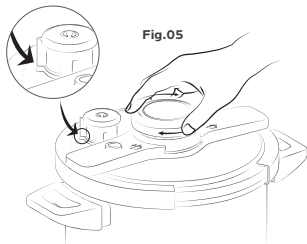

Fig.05
2. After depressurisation, open the pressure cooker by turning the button in a clockwise direction. (Fig.05)
- Adjustment valve: remove the selector button by placing it in this position as shown in the image (**Fig.05**) and rinse it under running water. Replace the selector button and make sure it is securely in place. It should move without difficulty.